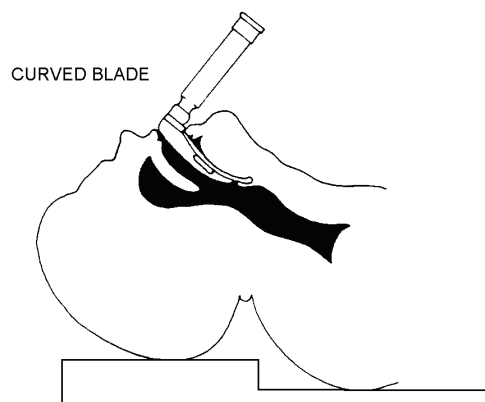

Figure 3-67 Macintosh blade
- (1)When using a Macintosh blade (curved), apply anterior pressure to the vallecula with the tip of the laryngoscope blade. This will fold back the epiglottis and expose the vocal cords. Refer to Figure 3-67.